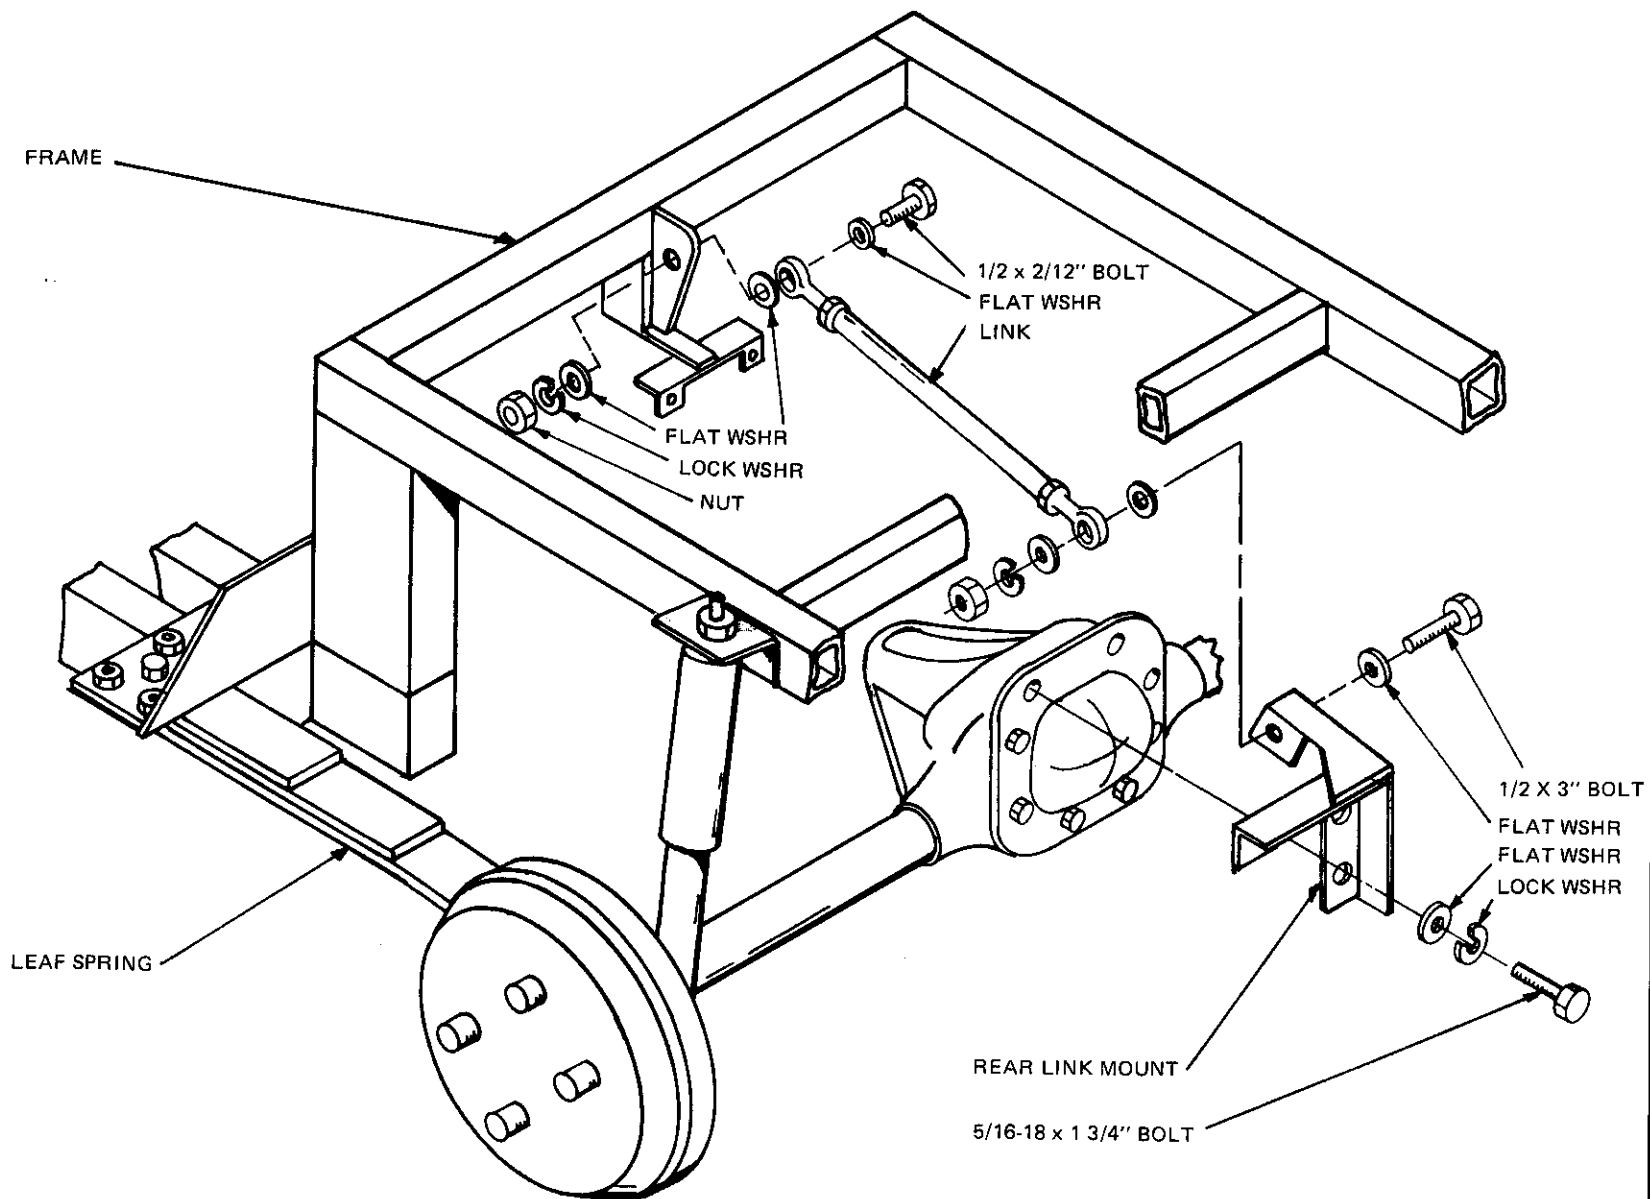

Figure 8
- ☐ Adjust link assembly until the universal flange on the differential is straight up and down. (Figure 8)